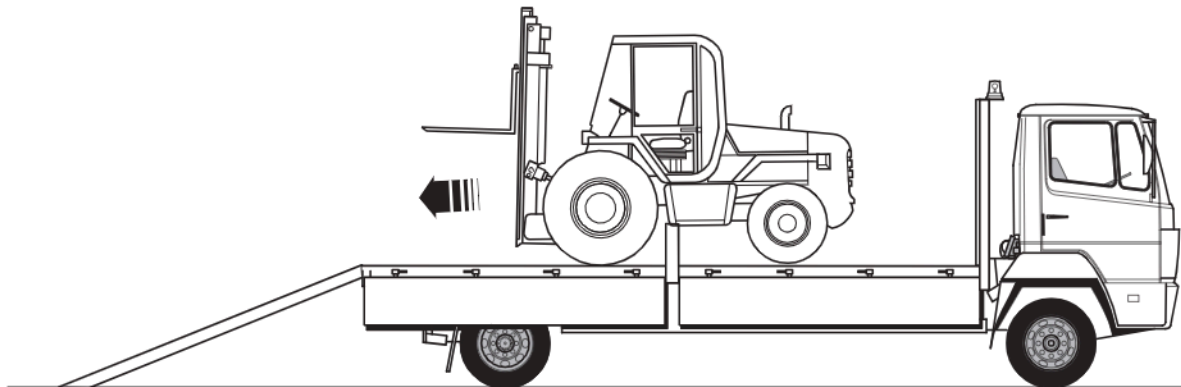

Fig 66.
- 5 Start the machine, tilt the mast back and raise the forks. Raise the carriage far enough so that the forks do not foul on the ramps when you drive off. → Fig 66. (□ 82).